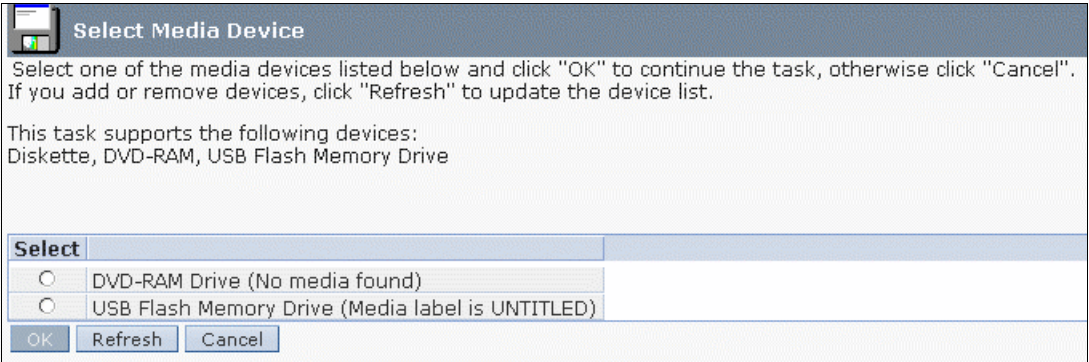

Figure 2-5 Format media
2. Select **Format Media** in the right window to open the media selection box (Figure 2-5).